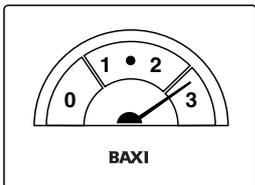

Fig. 6
3. A pressure of 3 bar or greater indicates a fault (Fig. 6). The safety pressure relief valve will operate at a pressure of 3 bar. It is important that a Competent Person (see Definition of competence page 9) is contacted as soon as possible.